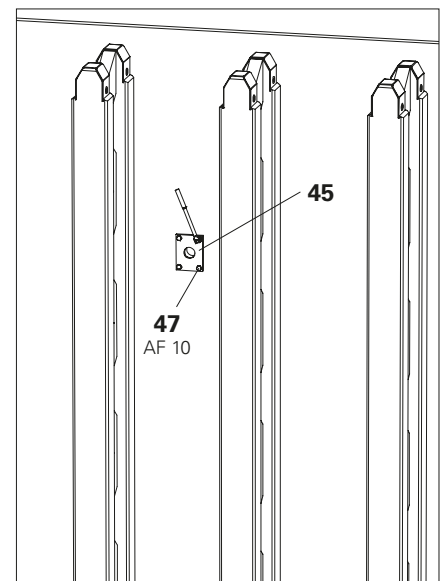

Fig. A5.10
3. Attach Anchor Posit. Plate M24 ga (**45**) to the formlining with 4x Hex-Wood-Screw 6x20 DIN571-ga (**47**). (Fig. A5.10)